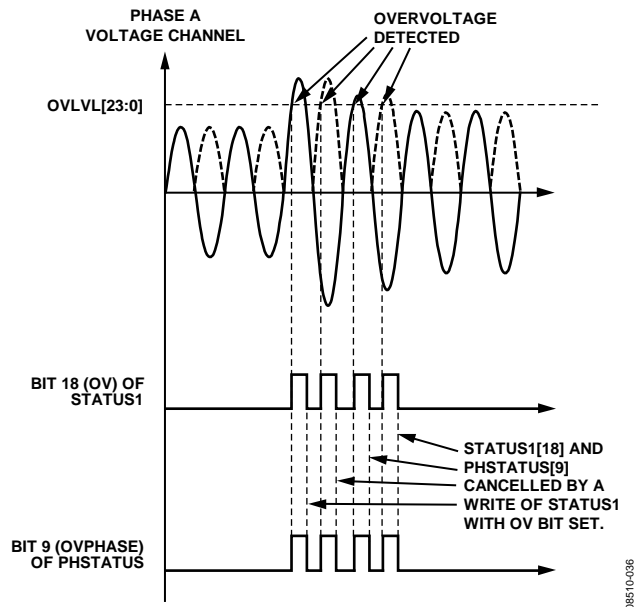

Figure 52. Overvoltage Detection
The ADE7854/ADE7858/ADE7868/ADE7878 detect when the instantaneous absolute value measured on the voltage and current channels becomes greater than the thresholds set in the OVLVL and OILVL 24-bit unsigned registers. If Bit 18 (OV) in the MASK1 register is set, the IRQ1 interrupt pin is driven low in case of an overvoltage event. There are two status flags set when the IRQ1 interrupt pin is driven low: Bit 18 (OV) in the STATUS1 register and one of Bits[11:9] (OVPHASE[2:0]) in the PHSTATUS register to identify the phase that generated the overvoltage. The Status Bit 18 (OV) in the STATUS1 register and all Bits[11:9] (OVPHASE[2:0]) in the PHSTATUS register are cleared, and the IRQ1 pin is set to high by writing to the STATUS1 register with the status bit set to 1. Figure 52 presents overvoltage detection in Phase A voltage.